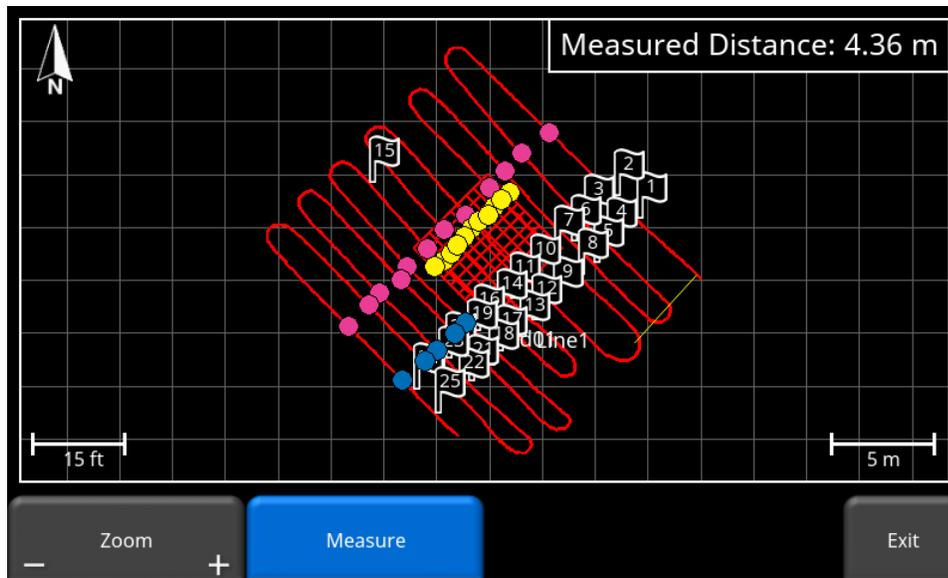

Figure 11-4: Using the Measure tool to draw a line on the screen
- When the **Measure** button is pressed, it is highlighted in blue. During this time, you can touch the screen and drag your finger a certain distance to get a measurement value for that distance. The distance value is displayed in the top right corner (Figure 11-4). Pressing the Measure button again exits from Measure mode and removes the yellow measured line and the measured value.